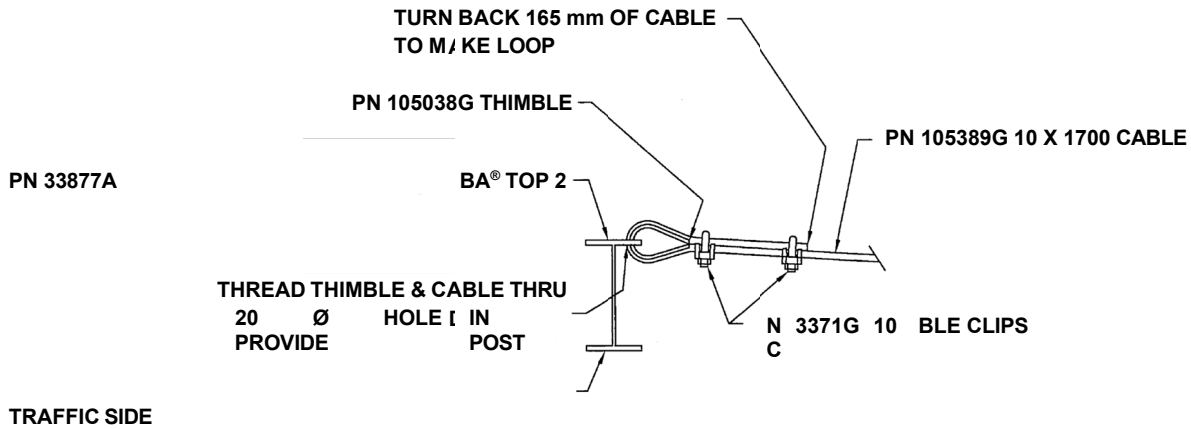

Figure 10
1. Thread Thimble (PN 105038G) and Tether Cable (PN 105389G) through hole on the top of the non-traffic side of HBA® Top Post 2. Loop back 165 mm of the Tether Cable and attach two (2) Cable Clips (PN 3371G) to secure Tether Cable (see Figure 10 and 12).